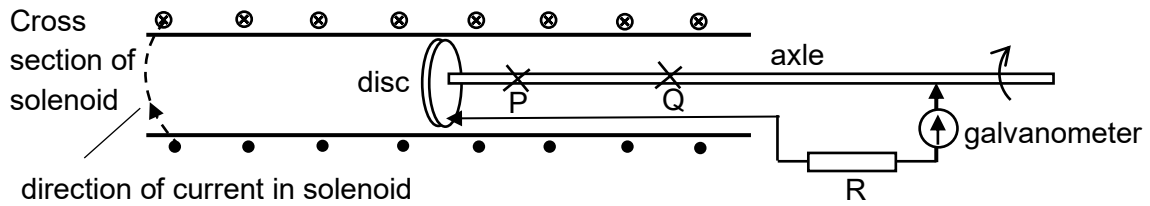

Fig. 6.1
The disc spins on a conducting axle which lies along the axis of the solenoid. The solenoid is connected in series with a d.c. supply and the direction of the current in the solenoid is as shown in Fig. 6.1. One end of the resistor is connected to the rim of the disc through brushes. The other end is connected to a galvanometer.
- (a) (i) Indicate the direction of the induced current between point P and Q with an arrow on Fig. 6.1.